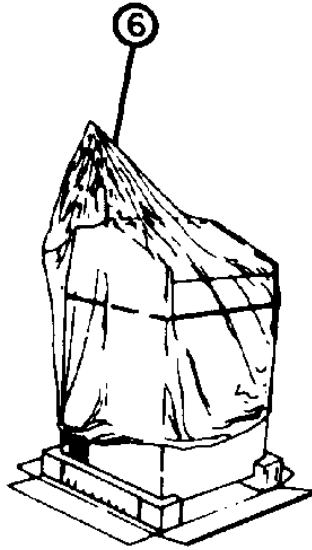

FIGURE A-8
6. Remove and discard the plastic shroud from the printer as shown in Figure A-8.